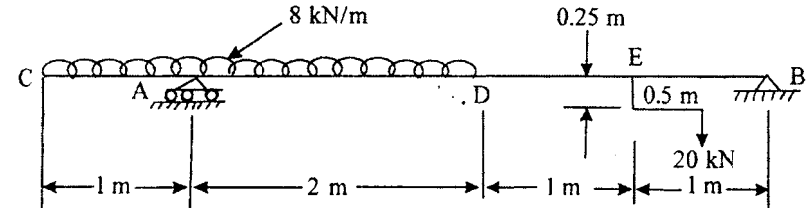

Fig. 1.3
5. Draw the shear force and bending moment diagram for the beam loaded as shown in Fig. 1.3 20